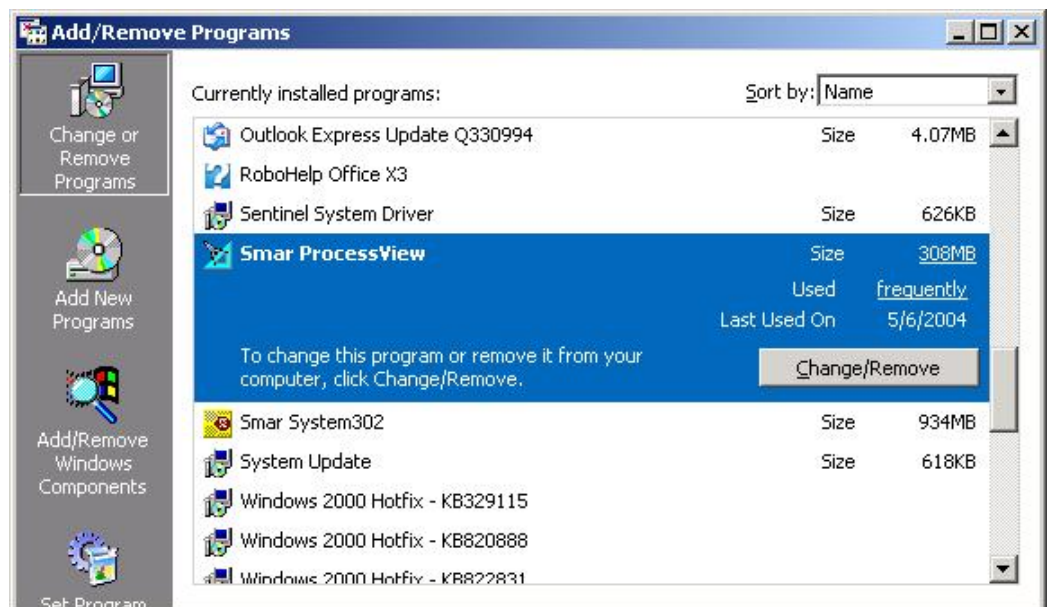

Figure 2.10. Add/Remove Programs Properties
3. From the list of programs that you can remove, select Smar ProcessView, as shown in Figure 2.10.